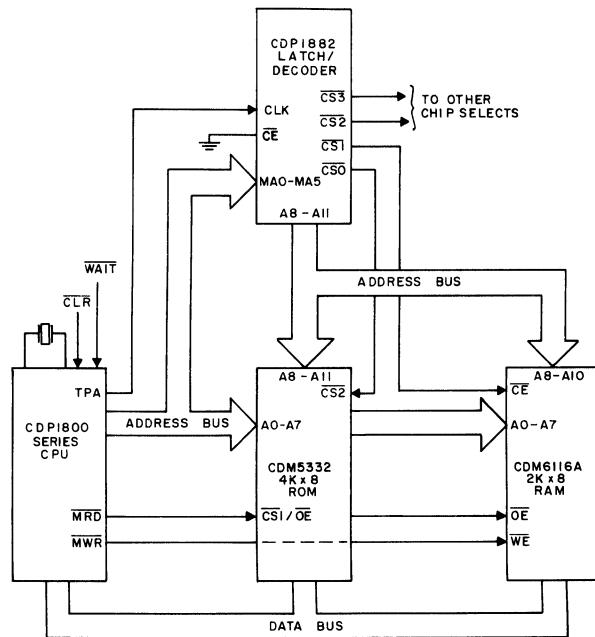

Fig. 5 - CDP1800-series system using the CDP1882.
- (1) Latch and decode high-order address bits for use as chip selects.
- (2) Gate chip selects with MRD and MWR to prevent bus contention with the CPU
- (3) Latch high-order address bits A8 to A11.
A system using the CDP1882 is shown in Fig. 5. The CDP1882 performs the memory address latch and decoder functions. Note that the RAM has an output enable (OE) pin which eliminates the need for MRD and MWR inputs on the latch/decoder. Instead, the MRD line is connected directly to the RAM output enable (OE) pin.